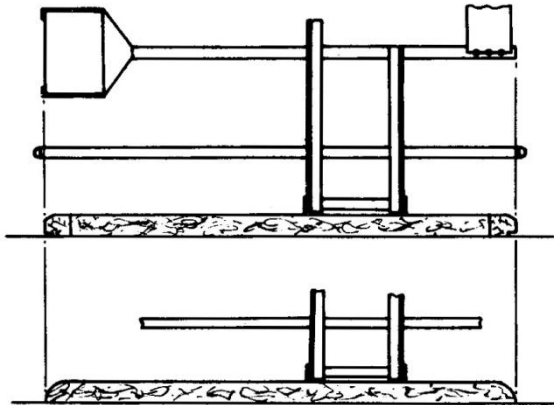

FIG. 4. CEMENT APRONS UNDER M.D.F.
- (i) cement apron below an M.D.F. or I.D.F. facilitates cleanliness and prevents the splashing of solder on the floor covering and the collection of rubbish in the area formed By the angle base members of the frame. An apron must be provided for all island type M.D.F's. and I.D.F's. See Figs. 4 and 5. However, when existing M.D.F's. and I.D.F's. which have been finished as in sub-para (iii) are extended, the original method of finishing must be used.
- (ii) The cement apron must be fitted as in Fig. 4. The wood curb at the edges must be fitted before filling-in with cement.